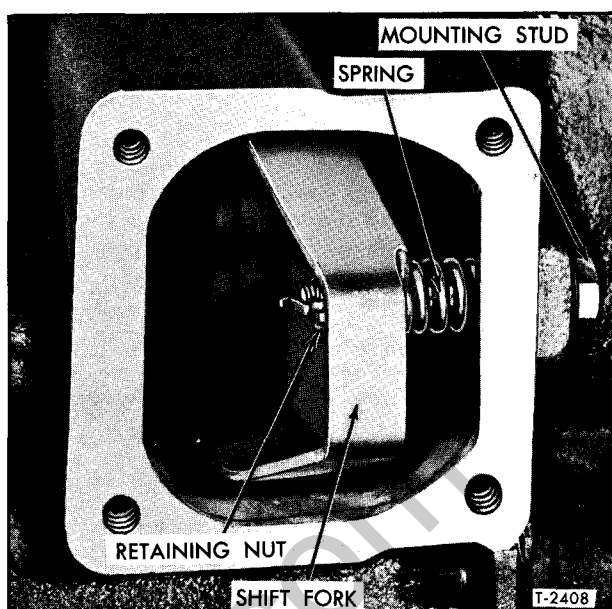

Figure 19—Inter-Axle Shift Fork Installed (Rockwell)
cap, and spring (fig. 19). Stud is pressed into housing and it may be necessary to press out slightly in order to remove shift yoke.
1. Through opening in differential carrier, install following on shift yoke bolt in order named: spring, cup, yoke, button, and nut (fig. 19).